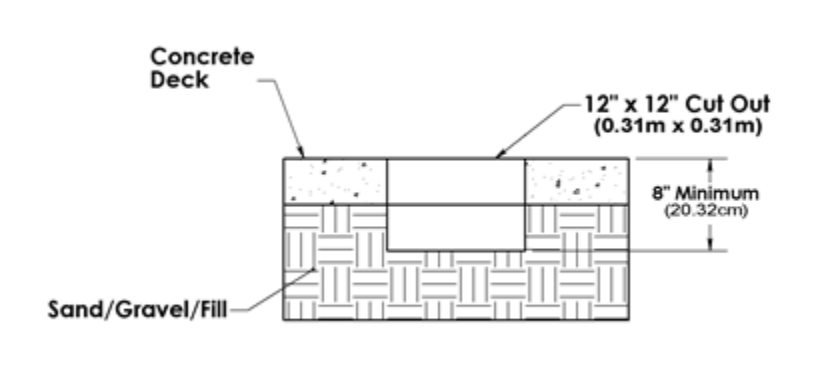

Figure 2
- b. Use a concrete cutting saw; cut the 12” x 12” square out of the existing concrete deck. Using a heavy/sledgehammer to break the cut section of concrete and remove from the deck. See Figure 2.